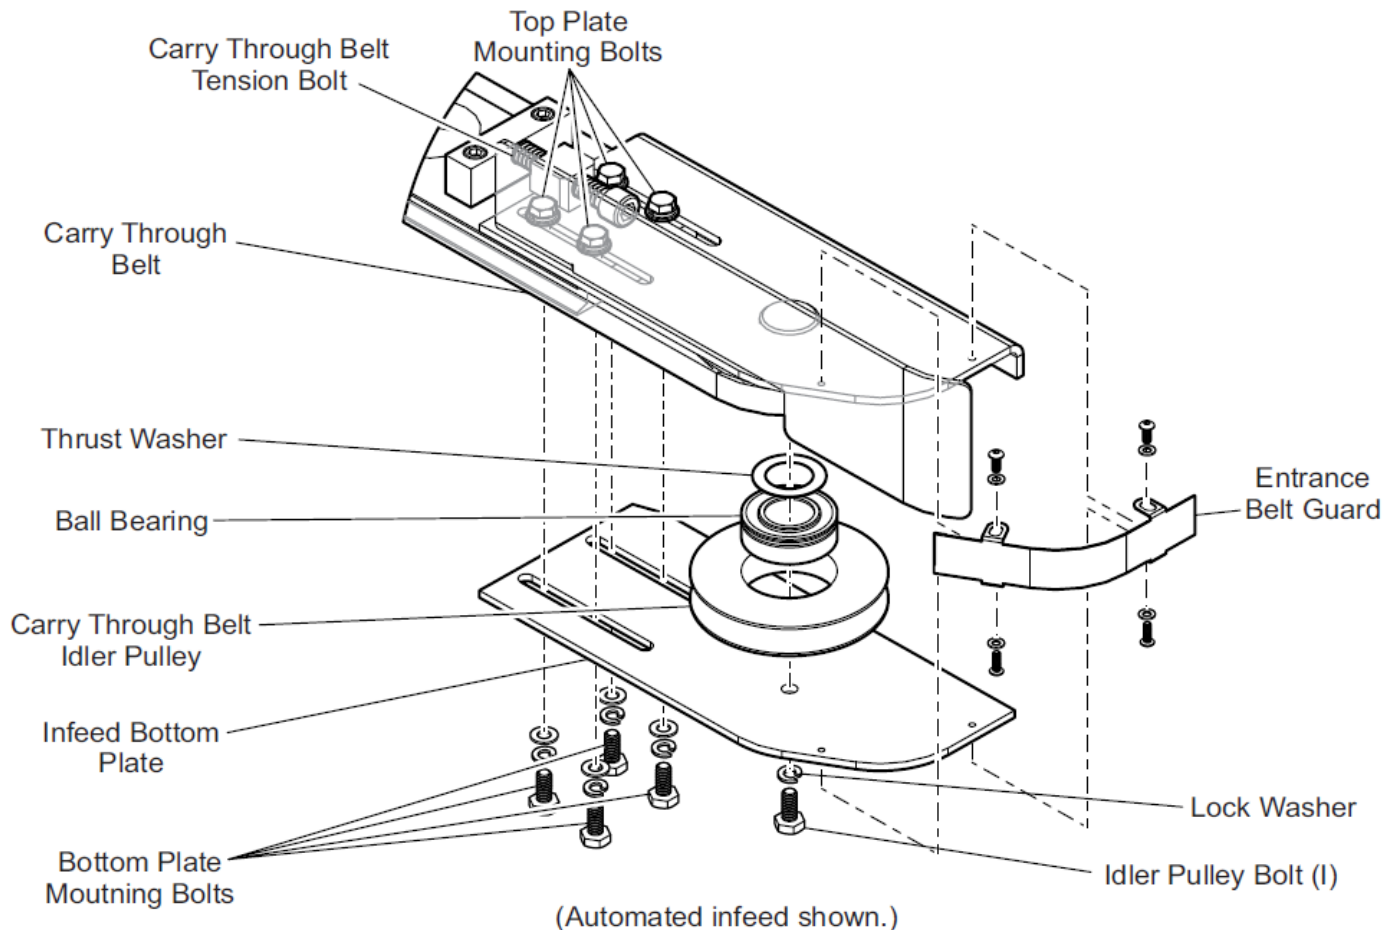

Figure 5-25: Infeed Idler Pulley Components
3. Remove the entrance belt guards from the leading edge of the infeed (see Figure 5-25: Infeed Idler Pulley Components).
7. Remove the idler pulley bolt (I) from the bottom of the infeeds. The infeed bottom plate can now be removed from the assembly.
13. Install the infeed bottom plate using the four bottom mounting bolts and the idler pulley bolt (I). The mounting bolts should hold the plate in position and allow the infeed assembly to move. The idler pulley bolt (I) can be tightened, but not so much to prevent the pulley from freely rotating.
4. Turn the tension bolt until the tension in the carry through belt has been removed and the belt can be removed (see Figure 5-25: Infeed Idler Pulley Components).